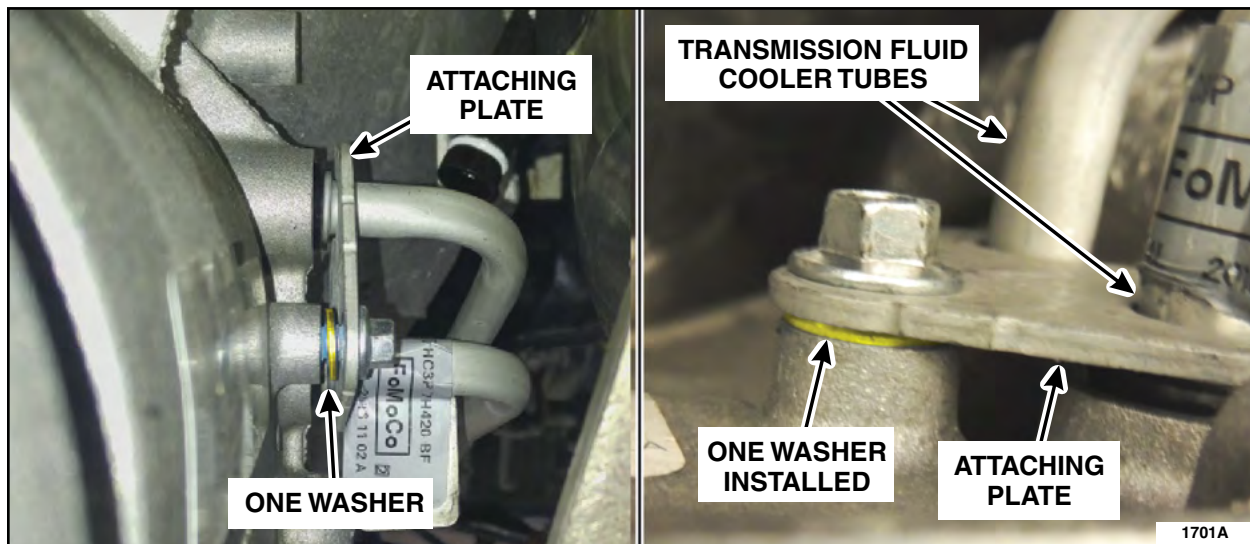

FIGURE 1
- During installation, install a *new* washer between the transmission case and the TFC tubes attaching plate. See Figure 1.
- b. Install a *new* washer between the transmission case and the TFC tubes attaching plate. See Figure 1.